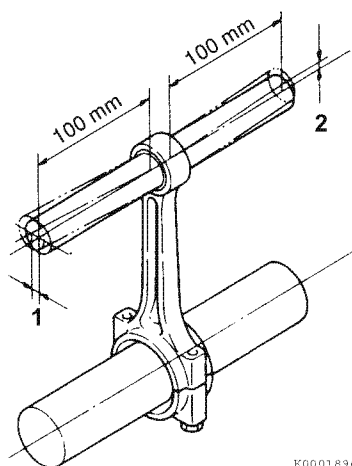
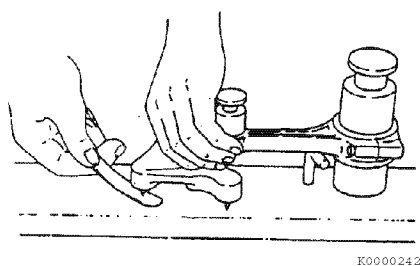

Figure 6-72
Figure 6-73
- Measure the connecting rod twist (**Figure 6-72, (1)**) and bend (**Figure 6-72, (2)**) using a connecting rod alignment tool (**Figure 6-73**). Record the measurements. *See Connecting Rod on page 6-11 for specifications.*